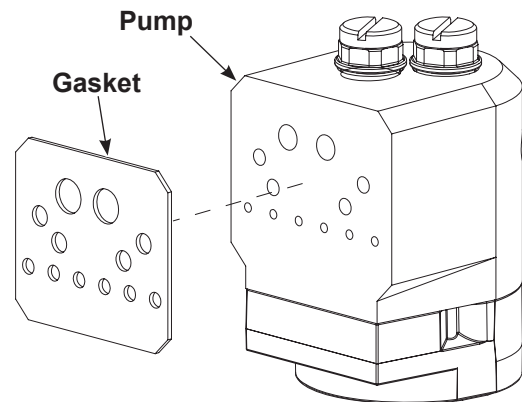

Figure 28 Replacing Pump Gasket
- See Figure 28. Remove pump gasket from the pump.